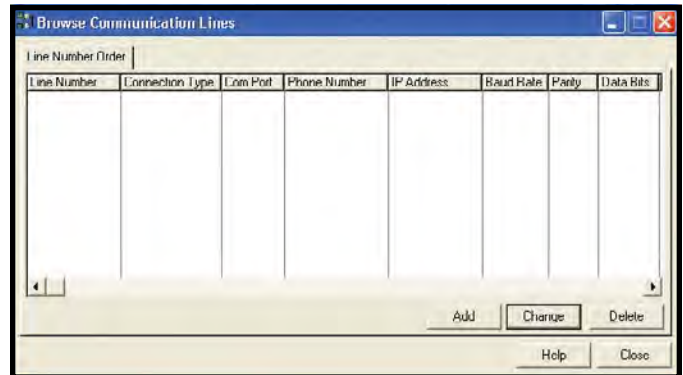

Figure 7. Out-of-the-Box™, Browse Communication Lines window
- V. Click the "Add" button in the "Browse Communication Lines" window (see Figure 7).